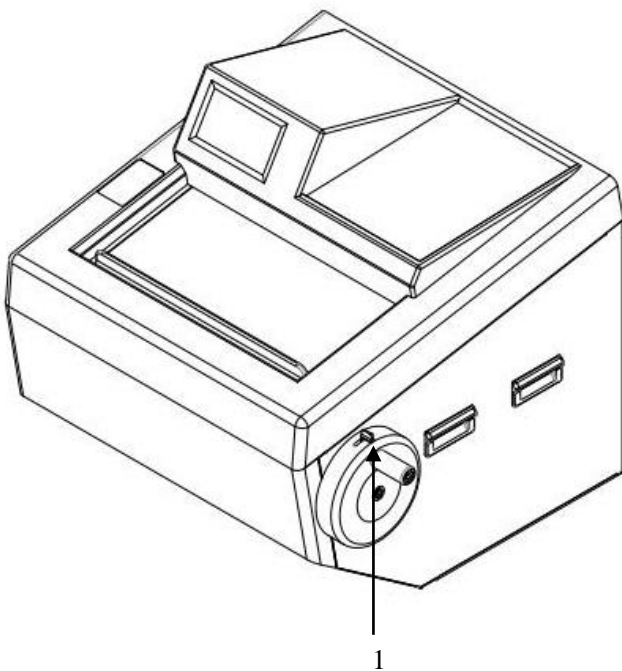
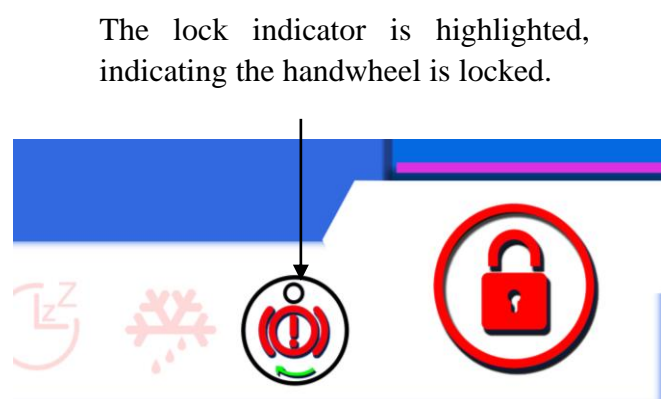

Fig 1
Fig 2
As showed in Fig1, it is the lock lever. Clockwise push the lever (1) until it locks the handwheel at the upright position. To unlock the handwheel, rotate counterclockwise the lever (1).
As showed in Fig1, the handwheel is locked. The "Lock" indicator light will be lit on display panel as fig 2..